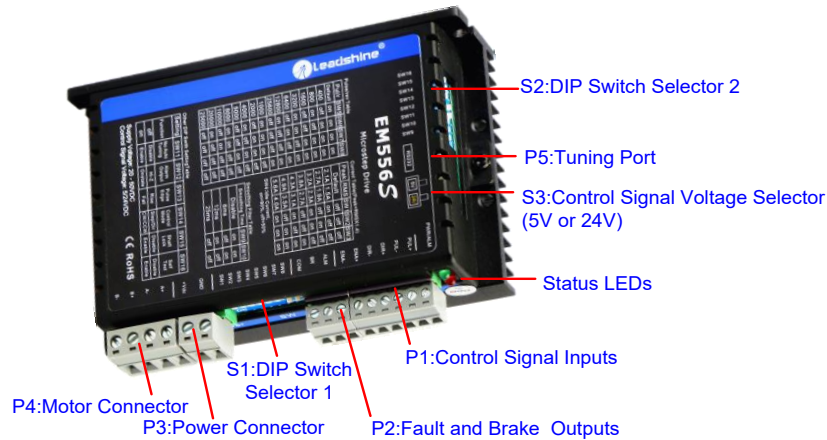

Figure 2 Connectors, DIP switches, and LED locations
PUL+ (CW+)	Pulse and Direction Connection: (1) Optically isolated, high level 4.5-5V or 24V, low voltage 0-0.5V (2) Maximum 200 KHz input frequency, 500KHz customized model is available (3) The width of PUL signal is at least 2.5μs, duty cycle is recommended 50% (4) Single pulse (step & direction) or double pulse (CW/CCW) is set by DIP Switch SW14 (5) DIR signal requires advance PUL signal minimum 5 μs in single pulse mode (6) The activated edge of PUL and DIR is set by DIP Switch SW13 (7) The factory setting of control signal voltage is 24V, must need to set S3 (figure 2) if it is 5V
The EM556S can accept differential or single-ended control signals (pulse, direction, and enable) in open-collector or PNP connection through the P1 connector (figure 2). It is recommended to add an EMI line filter between the power supply and the drive to increase noise immunity for the drive in interference environments.
The first 8-bit is located on the side (DIP switch selector 1 in Figure 2) and used to configure settings of micro step resolution, output current, and motor standstill current as shown below, the factory setting of SW1-SW8 is OFF, OFF, OFF, OFF, OFF, OFF, ON, ON.
The second 8-bit DIP switch is located on the top (DIP switch selector 2 in figure 2), and used to configure settings of control command filtering time, motor auto-configuration, fault output impedance, pulse active edge, control mode, lock shaft, and self-test as shown below, the factory setting of SW1-SW8 is OFF, OFF, OFF, ON, ON, OFF, OFF, OFF.
The Third 1-bit selector is located on the top (DIP switch selector 3 in figure 2), used to configure the voltage of control signals. For the safety of optically coupled, the factory setting is 24V, which no need to connect 2K resistors like the old drives, making it easier to use. When the voltage of the control signal is 5V, the S3 must be set to 5V, otherwise, the motor won't work.